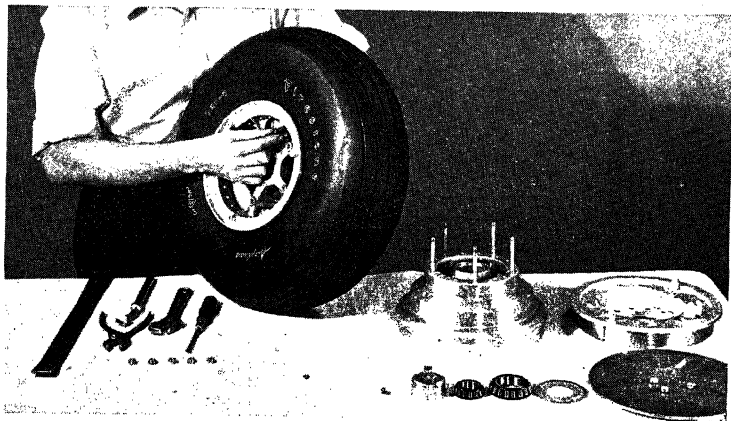

FIG. 17.—Pushing the outboard part of the wheel toward the valve stem.
4. Push the outboard part of the wheel toward the valve stem so that the stem enters the valve hole and emerges on the face of the wheel part. Screw the valve nut on the end of the valve stem (see Fig. 17).